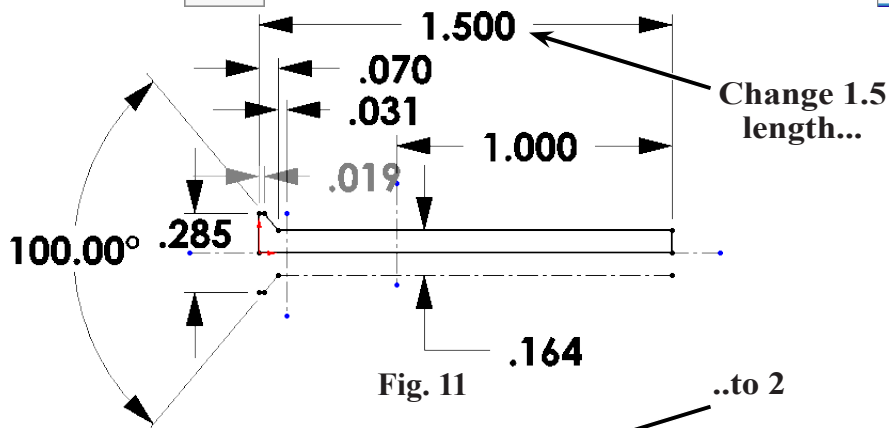
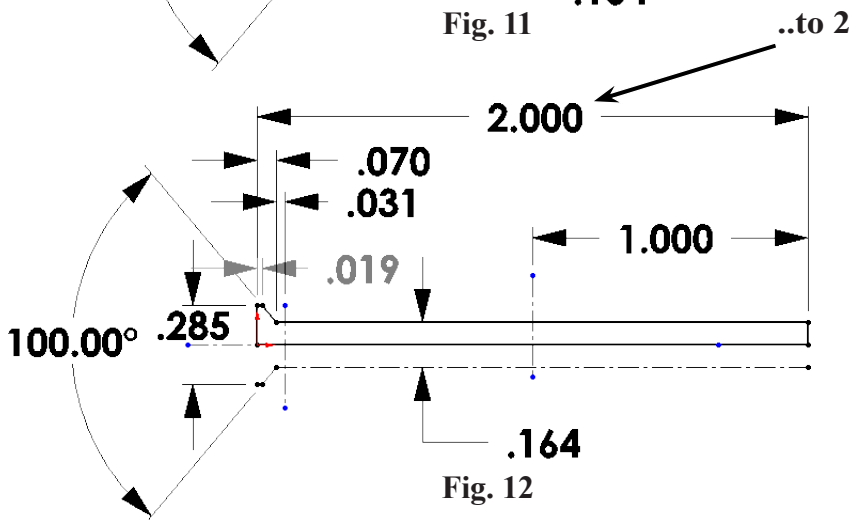

Fig. 11
Fig. 12
Step 3. Change length dimension from 1.5 to 2, **Fig. 11**. To change dimension, double click the dimension and key-in new dimension, **Fig. 12**.